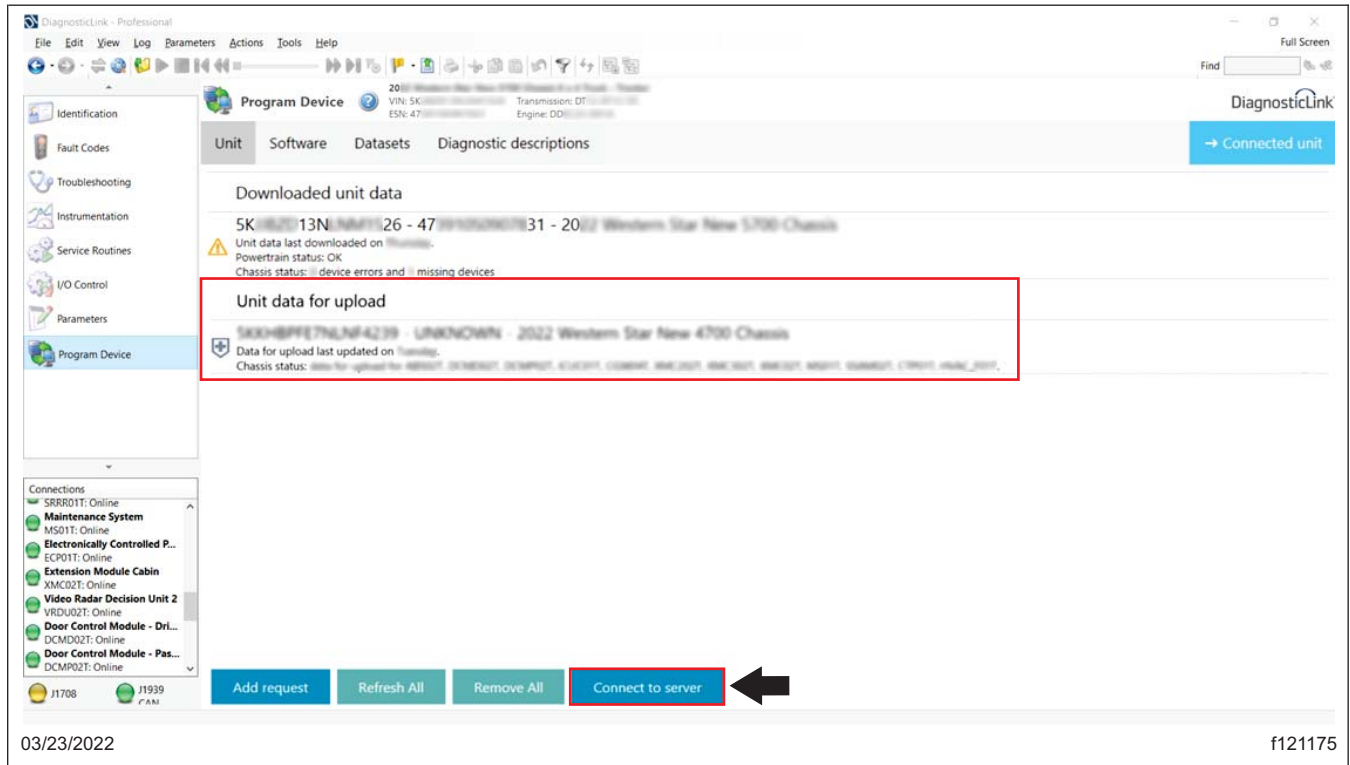

Fig. 7, Uploading the New Parameters
12. The information corresponding to the VIN should appear under 'Unit data for upload.' Select 'Connect to server' to upload the new parameters. See Fig. 7.